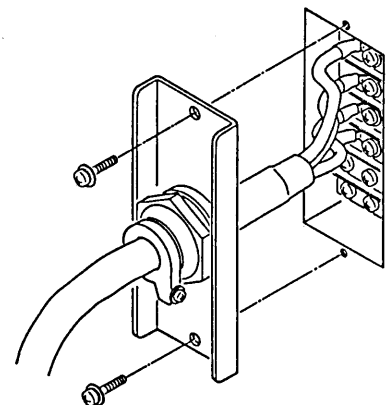

Figure 2-25
4. Connect the four core wires (with crimped terminals) of the cord to the input terminals (M4 screw terminals, for U, V, W phases and GND) of the terminal block (see Figure 2-25). Fix the bracket to the mainframe with the two screws. Adjust the cord to a slack state and, in this state, fully tighten the cord-clamping screw. (The phases are free. Any phase lines of the power cord can be connected to any phase terminals (U, V, W) of the terminal block.)